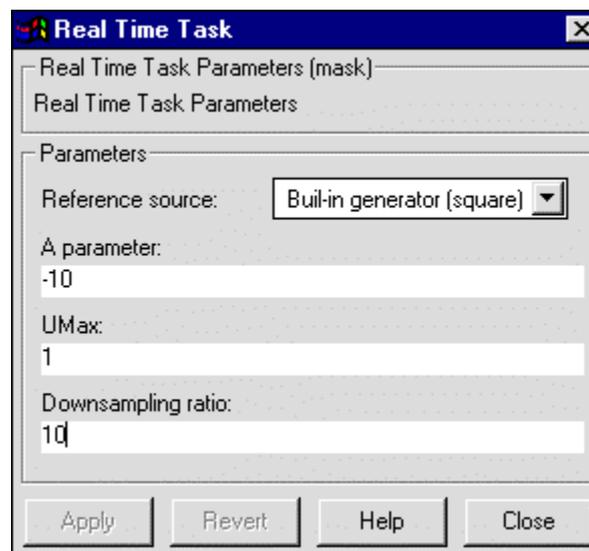

Figure 9-3: Parameters of the *Real-Time Task* block.
- *Downsampling ratio* - this parameter decreases the rate of output data flow from the output of the *Real Time Task* (see Figure 9-3). For example, if the downsampling coefficient is 10, for each 10 sampling periods only one is transferred to the output of the block.